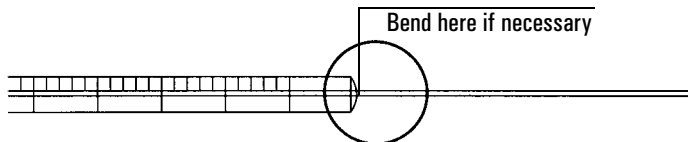

Figure 9 Syringe needle inspection
1. Roll the syringe on the edge of a clean flat surface. If the tip of the needle moves in a circle, straighten the shaft by bending it slightly near where it connects to the syringe barrel and check it again. See Figure 9.